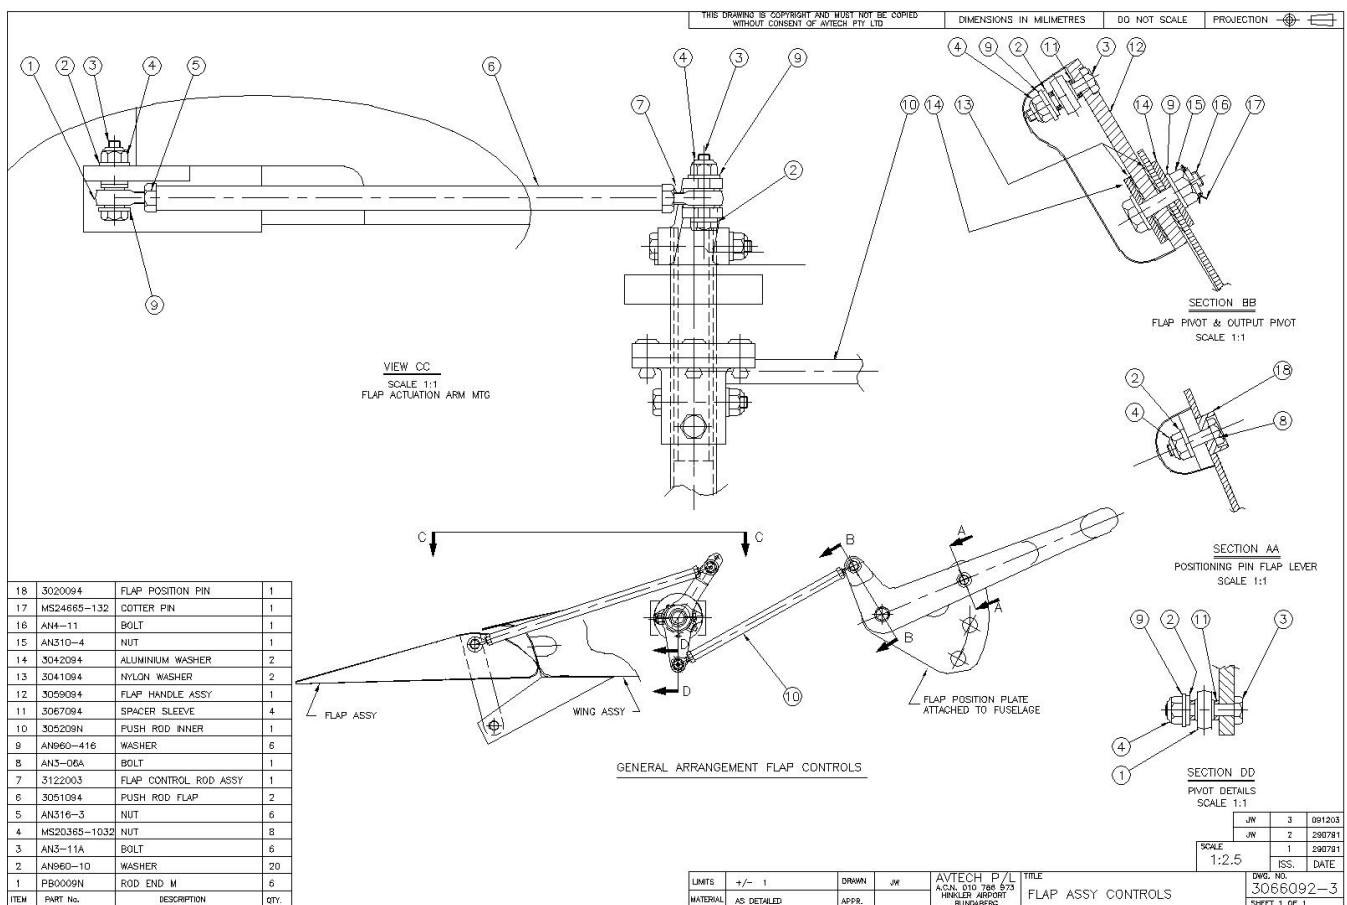

Figure 110 – Manual Flap Control System (all J-Series, n/a J200/J400)
- Many Jabiru Aircraft are fitted with a manual flap system similar to that shown in Figure 110. In these systems the pilot pulls down on the lever to lower the flaps.